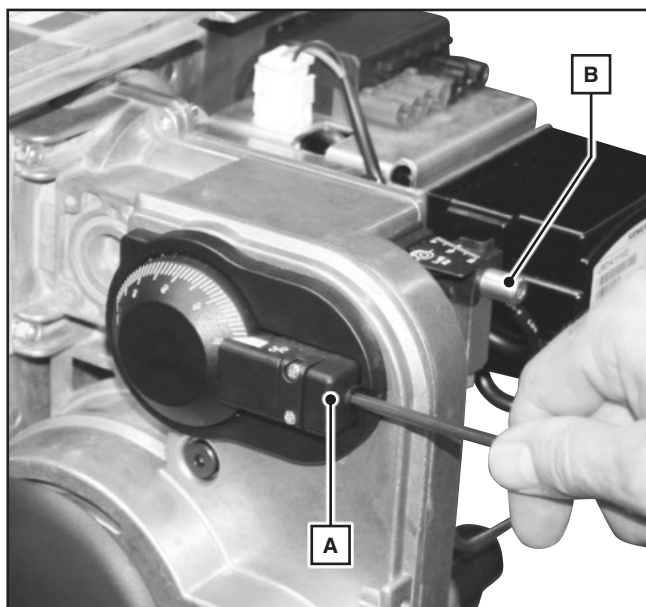

Figure 16
a. Air flap (see. fig.16)
b. Baffle plate (see. fig.16)